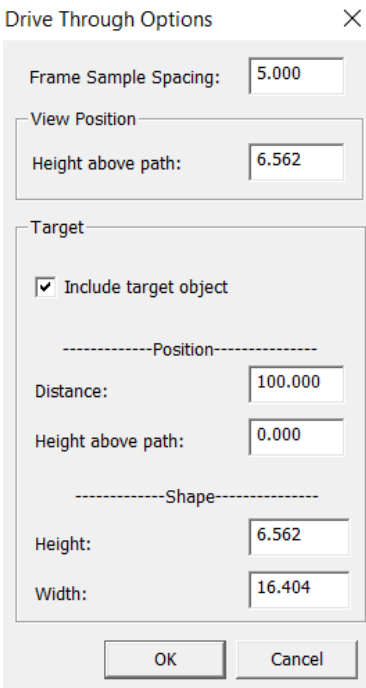

Figure 23-8: Drive Through Options Dialogue Box
- 5. Press *Options* to bring up the *Drive Through Options* dialogue box as shown in Figure 23-8 below.